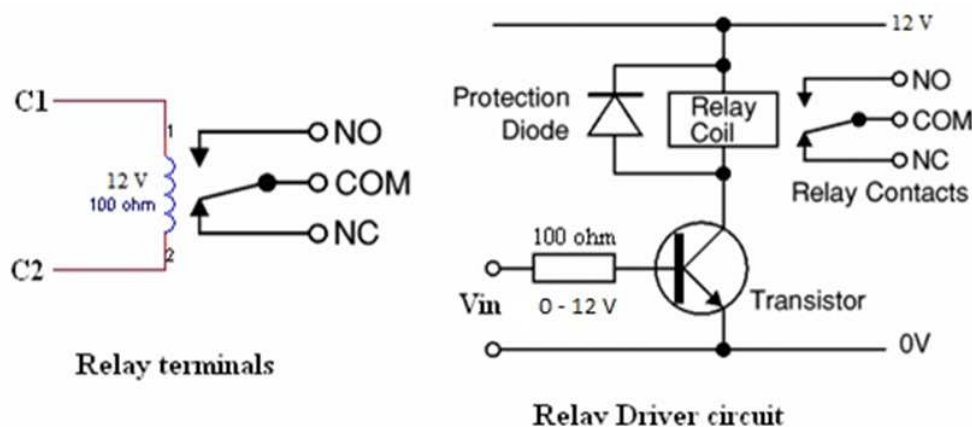

Fig 3: Interfacing circuits
- The solenoid valves are activated by electronic SPST switch, which in turn has to be controlled by the signals from your circuit. The interfacing has been provided as shown in Fig 3.
- The interfacing will be similar to that of fig 3, the solenoid valves being replaced by the lamps and the supply being AC mains.